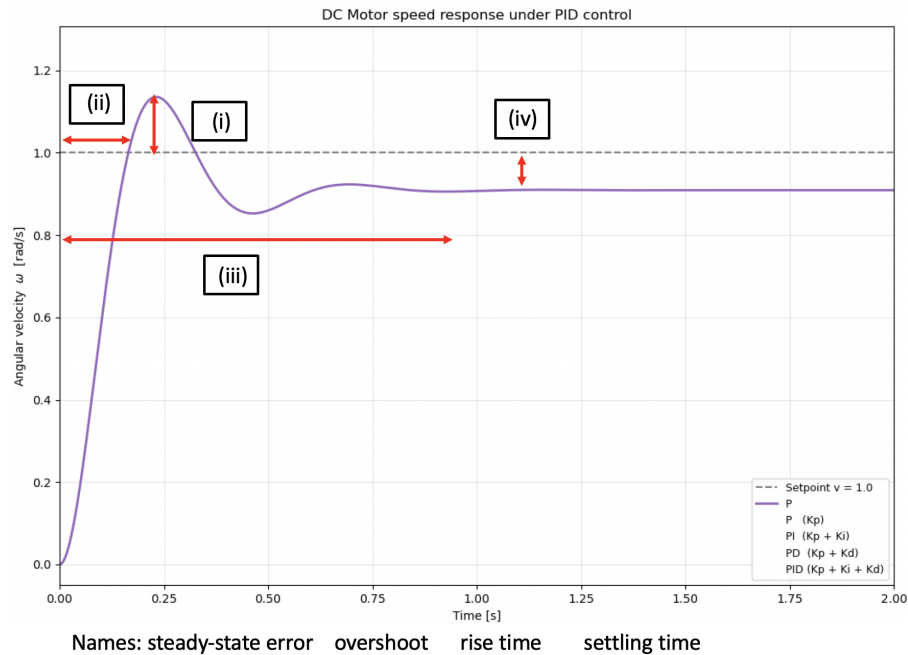

Figure 6: Step response of a controlled system. Match the labels (i)–(iv) to the names.
- (i) Given the step-response plot in Figure 6, match the labels (i)–(iv) to the names in the figure.